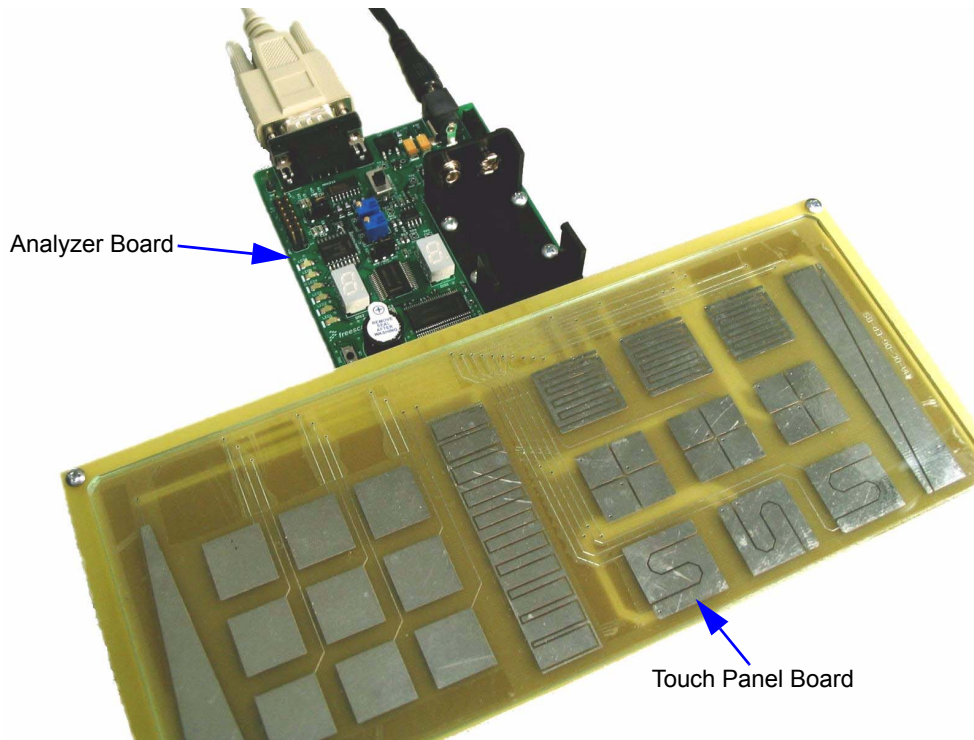

Figure 1-1. Touch Panel System concept
Figure 1-1 below shows the TPS concept. The populated board is called the Analyzer Board (AB) while the electrodes board is called the Touch Panel Board (TPB).